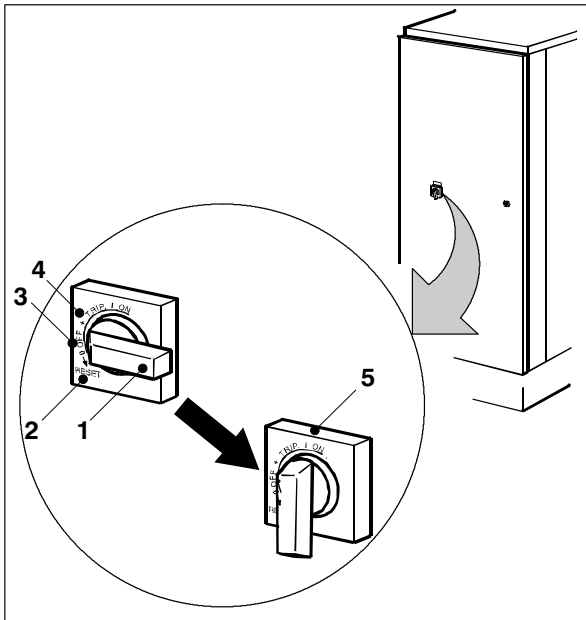

Fig. 20 Switching on the DryStar 2000 CAN
1. Turn the main switch control lever on the dryer cabinet to position *I ON* (Fig. 20/5).
The control lever is set to the + *TRIP* (Fig. 20/4) position if the DryStar 2000 CAN is switched off remotely or if the unit is tripped in the event of a fault. To switch on the unit, the control lever must be turned to the *RESET* position first (Fig. 20/2) and then turned to the *I ON* position (Fig. 20/5).
To switch off the DryStar 2000 CAN, turn the main switch control lever on the dryer cabinet to **O** *OFF* (Fig. 20/3) position.